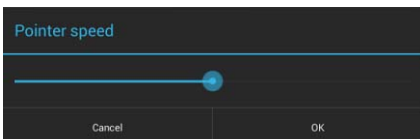

FIG. 93 Pointer Speed window
1. Under MOUSE/TRACKPAD, press **Pointer Speed** to open the Pointer Speed window (FIG. 93):